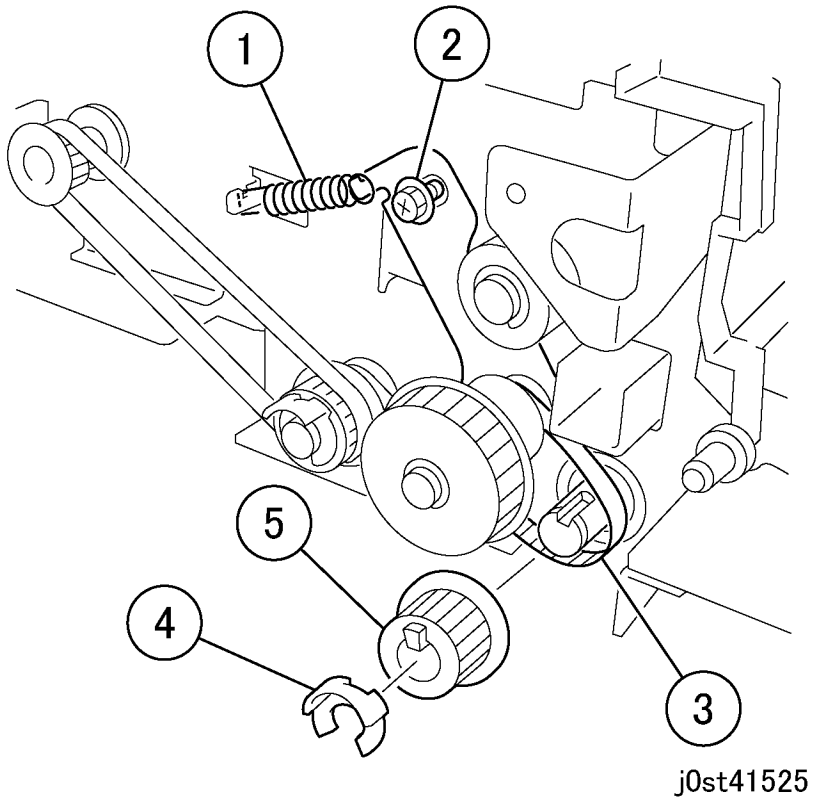

Figure 5 Loosening the belt tension
11. Loosen the belt tension (Figure 5).